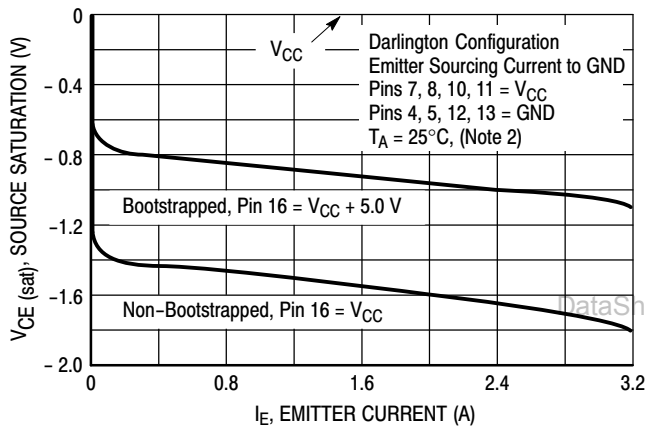

Figure 10. Output Switch Source Saturation vs. Emitter Current
- V_{sat} – Saturation voltage of the output switch, refer to Figures 10 and 11.